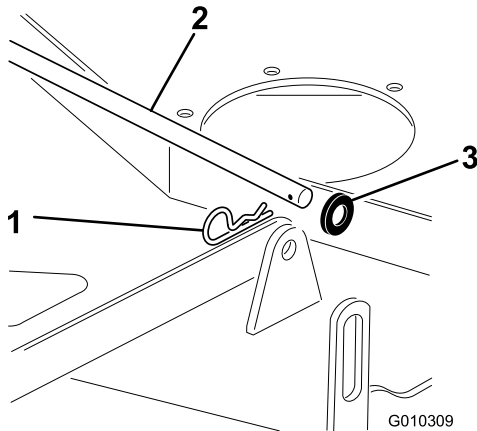

Figure 72
1. Remove the hair pin cotter and washer securing the long, link bar to the frame and deck; remove the link bar (Figure 72).
7. Install the long, link bar through the frame hanger and deck. Secure the link bar with the hair pin cotters and washers removed previously (Figure 72).